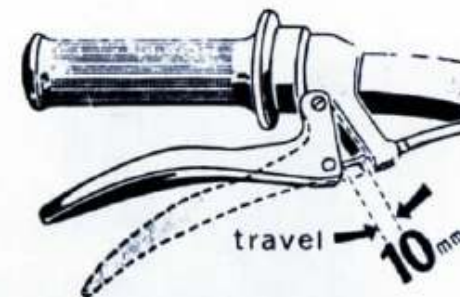

Fig. 26
4. Unscrew both axle nuts (e) and remove strut of the fender from axle. Take off wheel downwards. When reinstalling, make sure that the fork holders on the right side engage in the slot of front wheel hub lever (f). Tighten axle nuts again. After connecting the brake cable, the brakes will have to be adjusted again, i.e., the brake control lever travel at the handle bars must be about .4 in./10 mm so that the brake catches. (see Fig. 26)